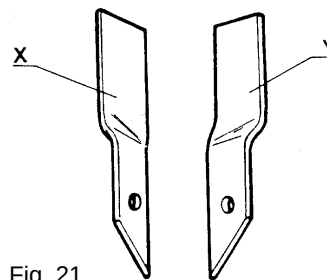

Fig. 21
Firstly identify left and right blades. Blade (X) is a left hand blade and (Y) right hand. (see fig.21)